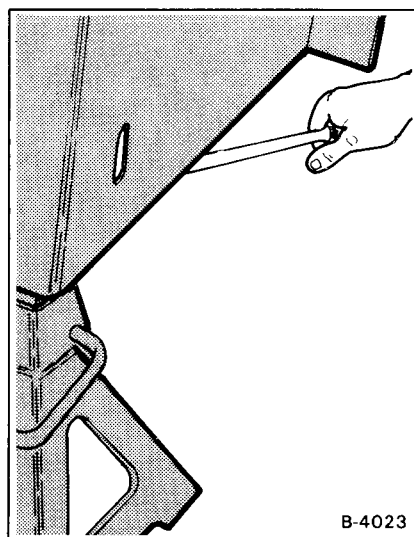

Fig. 1-37 Removing Drain Plug
- (1) Remove the drain plug (Fig. 1-37).